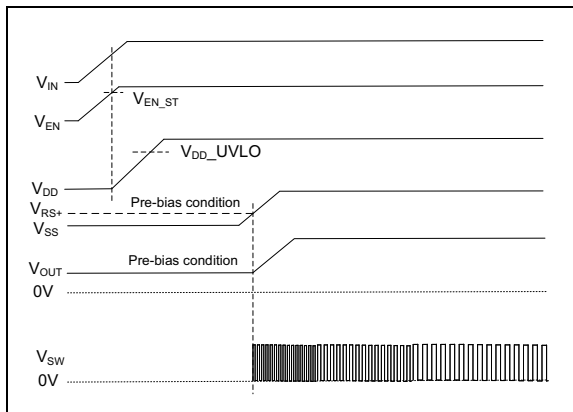

FIGURE 4-15: Pre-bias Startup Waveform.
In the case of pre-bias on the output, both the LSFET and HSFET are disabled from switching as the soft start (SS) ramps up. As shown in Figure 4-15, when the SS voltage reaches the RS+ pin pre-bias voltage level, the MOSFETs' switching is enabled. The output voltage then starts ramping up monotonically from the pre-biased voltage. This mechanism is active only during start-up; it is not active during load transients.